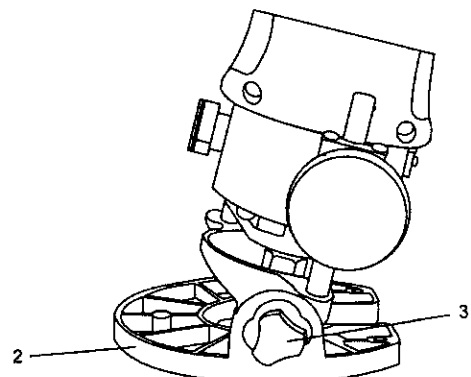

Fig. 17
1. Loosen both bevel adjusting knobs (3) by turning them counter clockwise at least 2 turns (see Fig. 17).
2. Tilt router base (2) to the desired angle.